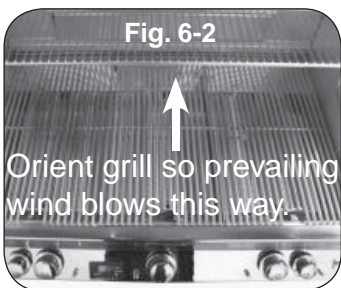
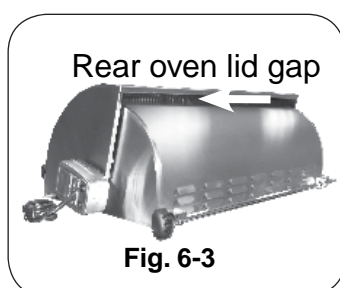

Fig. 6-2
Fig. 6-3
**CAUTION:** DO NOT operate the grill with air blowing into or across the rear oven lid gap (Fig. 6-3). This can cause poor performance and/or dangerous overheating of the control panel. Orient the grill so that any prevailing wind blows against the front of the grill (Fig. 6-2).